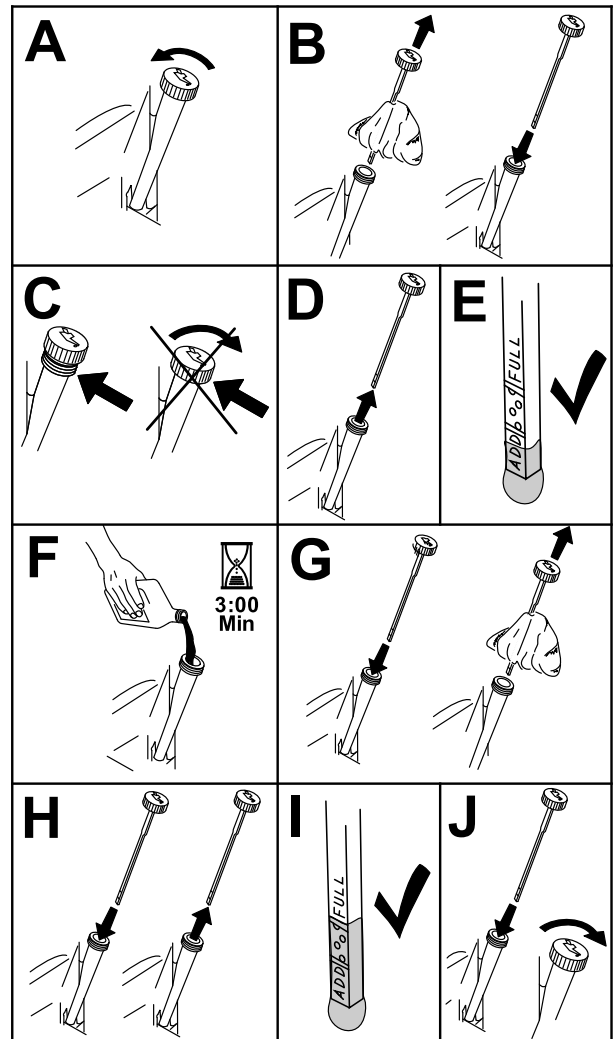

Figure 53
3. To keep dirt, grass clippings, etc., out of the engine, clean the area around the oil-fill cap and dipstick before removing it (Figure 53).